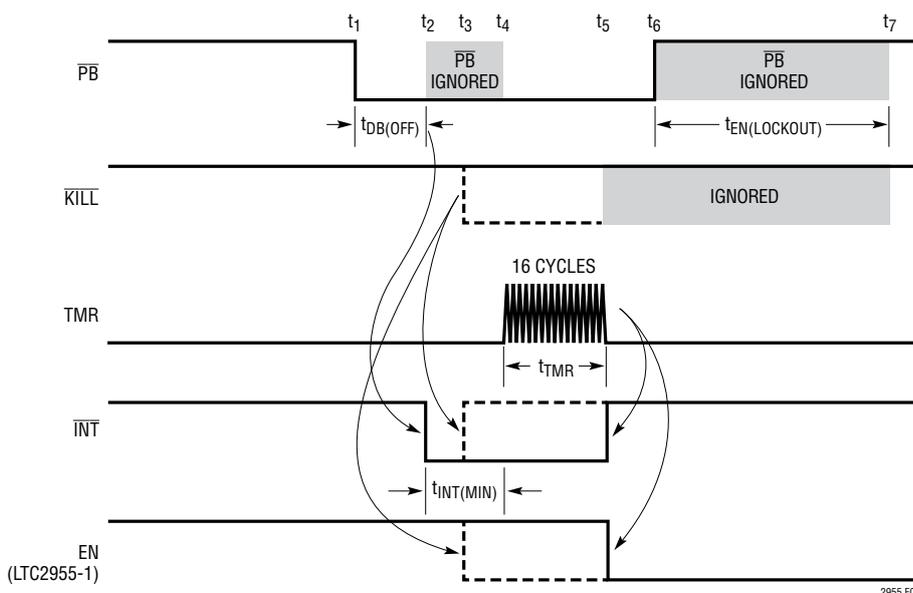
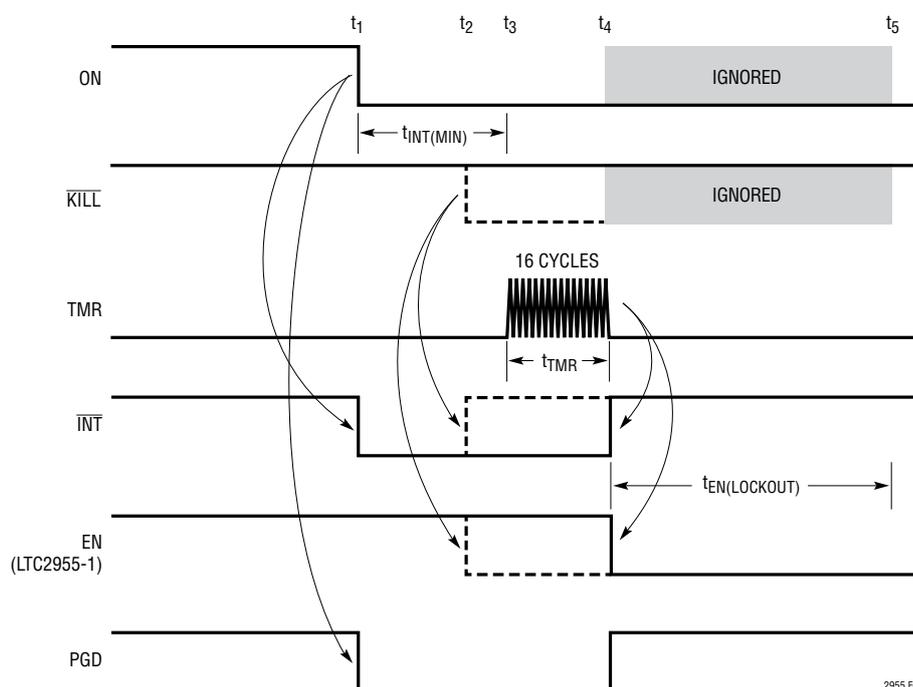

Figure 3. Pushbutton Turn-Off Timing
Figure 5. ON Pin Turn-Off Timing (DFN Only,  $V_{SEL} > 1.2V$  and the Preceding Turn-On Sequence Was Initiated by the ON Pin Rising Edge)
Figure 3 shows the turn-off sequence of the LTC2955-1 initiated through the  $\overline{PB}$  pin. A turn-off sequence refers to the LTC2955-1 releasing the EN output. This turns off the voltage regulator.
A high to low transition on  $\overline{PB}$  ( $t_1$ ) starts the turn-off sequence. In order to assert  $\overline{INT}$  (interrupt output) low,  $\overline{PB}$  must stay low continuously for 32ms ( $t_{DB(OFF)}$ ). At the end of the 32ms ( $t_2$ ), the  $\overline{INT}$  pin is asserted low and will stay low for at least 32ms ( $t_{INT(MIN)}$ ), even if the  $\overline{PB}$  pin goes high during this period ( $t_2$  to  $t_4$ ). When the  $\mu P$  receives this interrupt signal, it should start to perform its power-down functions and assert  $\overline{KILL}$  low ( $t_3$ ) once it is done. The LTC2955-1 will then release  $\overline{INT}$  and pull EN low, thus turning off the system power, as shown with dotted lines in Figure 3.
high). This can be done by holding the pushbutton down for a long period ( $> t_{DB(OFF)} + t_{INT(MIN)} + t_{TMR}$ ) as shown with the solid lines in Figure 3. If the  $\overline{PB}$  pin remains low at the end of the 32ms minimum  $\overline{INT}$  pulse width ( $t_{INT(MIN)}$ ), the external timer will start counting ( $t_4$ ).
After the EN output goes low and the  $\overline{PB}$  pin goes high, the LTC2955-1 starts the one second lockout time ( $t_{EN(LOCKOUT)}$ ). During this lockout time ( $t_6$  to  $t_7$  in Figure 3)
Figure 5 shows the turn-off sequence of the LTC2955-1 initiated by the ON pin. The timing sequence is slightly different from that by the pushbutton as there is no debounce time ( $t_{DB(OFF)}$ ) before the  $\overline{INT}$  pin pulls low. The ON pin falling edge can start the turn-off sequence only if the following two conditions are met: (1) The preceding turn-on sequence was initiated by the ON pin rising edge, and (2) The SEL pin must be tied high ( $>0.8V$ ). For TS8 package, the ON pin falling edge is ignored.
In Figure 5, a high to low transition at ON ( $t_1$ ) starts the turn-off sequence. The interrupt output ( $\overline{INT}$ ) is asserted immediately when the ON pin goes low. Unlike the  $\overline{PB}$  pin turn-off sequence, there is no 32ms debounce time ( $t_{DB(OFF)}$ ) for the ON pin going low. This allows the system to initiate a shutdown as soon as the monitored supply is removed and allows the  $\mu P$  the maximum amount of time
to perform power-down functions. The  $\overline{INT}$  pin will stay low for at least 32ms ( $t_{INT(MIN)}$ ). When the  $\mu P$  receives this interrupt signal, it should start to perform its power-down functions and assert the  $\overline{KILL}$  input low ( $t_2$ ) once it is done. The LTC2955-1 will then release the EN and  $\overline{INT}$  outputs, thus turning off the system power, as shown with dotted lines in Figure 5.
If the  $\mu P$  fails to respond ( $\overline{KILL}$  pin remains high, as shown with solid line in Figure 5) and the ON pin remains low 32ms after  $\overline{INT}$  goes low, the external timer will start counting for 16 cycles ( $t_{TMR}$ ,  $t_3$  to  $t_4$ ). If the ON pin remains low at the end of the 16 cycles ( $t_4$ ), the LTC2955-1 will force the EN pin low and the  $\overline{INT}$  pin high. See Applications Information for adjusting  $t_{TMR}$ .
The LTC2955 allows the user to force the system power to turn off if the  $\mu\text{P}$  fails to respond during fault conditions. As shown by the solid lines in Figure 3 and Figure 5, when the  $\mu\text{P}$  fails to bring the  $\overline{\text{KILL}}$  pin low after the interrupt signal is asserted, the user can force a turn-off by holding down the pushbutton. The length of time that  $\overline{\text{PB}}$  must be held low is given by a fixed 64ms delay ( $t_{\text{DB(OFF)}} + t_{\text{INT(MIN)}}$ ) plus an adjustable power-down timer delay ( $t_{\text{TMR}}$ ). The adjustable delay is set by placing an optional external capacitor on the TMR pin. Use the following equation to calculate the capacitance for the desired delay.  $C_{\text{TMR}}$  is the external capacitor at the TMR pin: